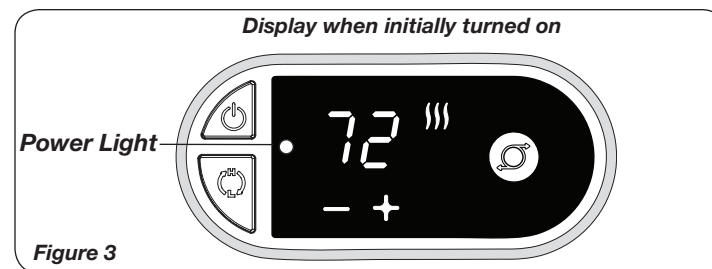

Figure 3
- Upon turning the Heater on, the unit will be in HIGH heat (III) (1500 Watts) and will display the current room temperature. (Figure 3)
- Press the (C) button for LOW heat (I).